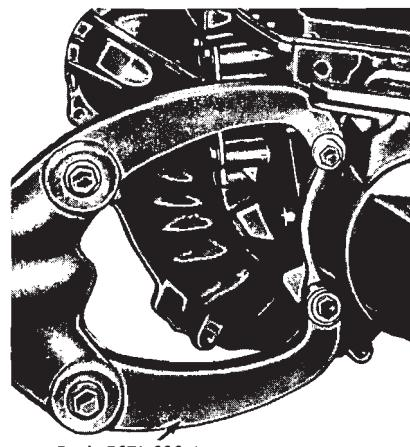

FIG. 29—Transmission Mounted in Holding Fixture
4. Remove the two extension housing-to-case bolts shown in Fig. 29 and mount the transmission in the holding fixture.